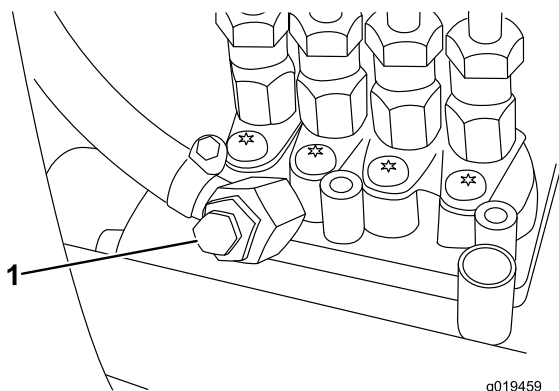

Figure 29
6. Open the air bleed screw on the fuel injection pump (Figure 29).